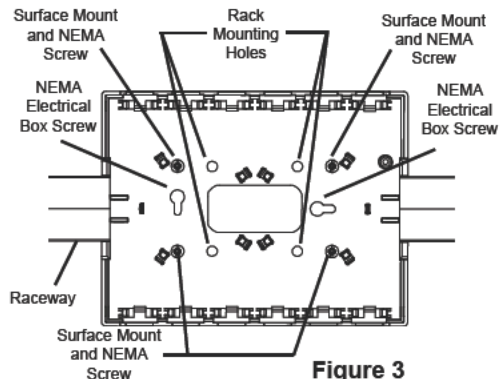

Figure 3
3. Mount box to solid surface with provided self tapping screws. For NEMA electrical box installation, align base mounting holes with holes in electrical box and secure with supplied mounting screws. See Figure 3. **Important: Maintain flatness when mounting base to mounting surface, NEMA box, etc.**